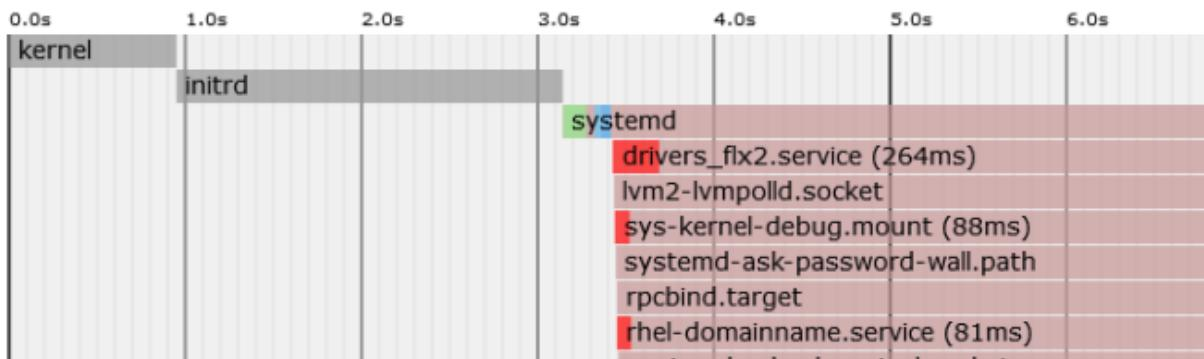

Figure 10.2 Example output of `systemd-analyse` with `drivers_flx` first.
- Reboot the computer and check `systemd-analyze plot drivers_flx_sd.service > p.svg; eog p.svg` again. Keep adding services to the `BEFORE=` list until `drivers_flx_sd` is the first service, as shown in Figure 10.2